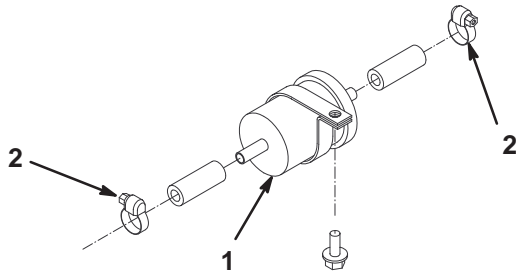

Figure 47
3. Loosen the hose clamps at both ends of the filter (Fig. 47) and pull the fuel lines off of the filter.